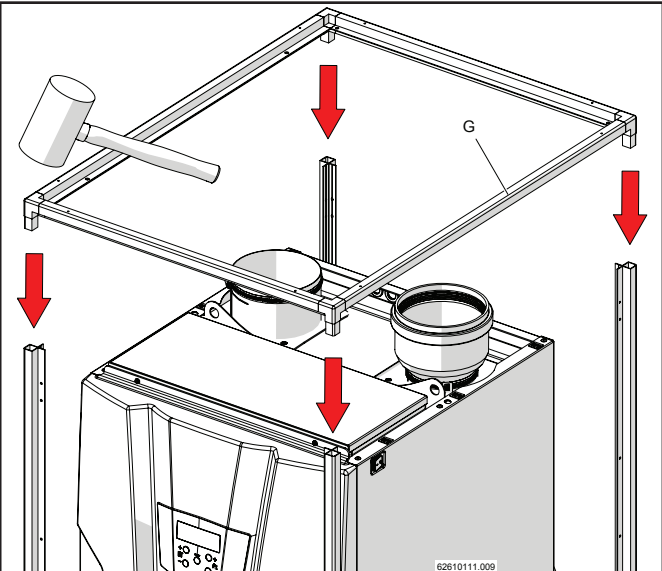

Figure 15-11
- 6.- Insert the upper framework "G" of the external cover using a rubber mallet (figure 15-11).